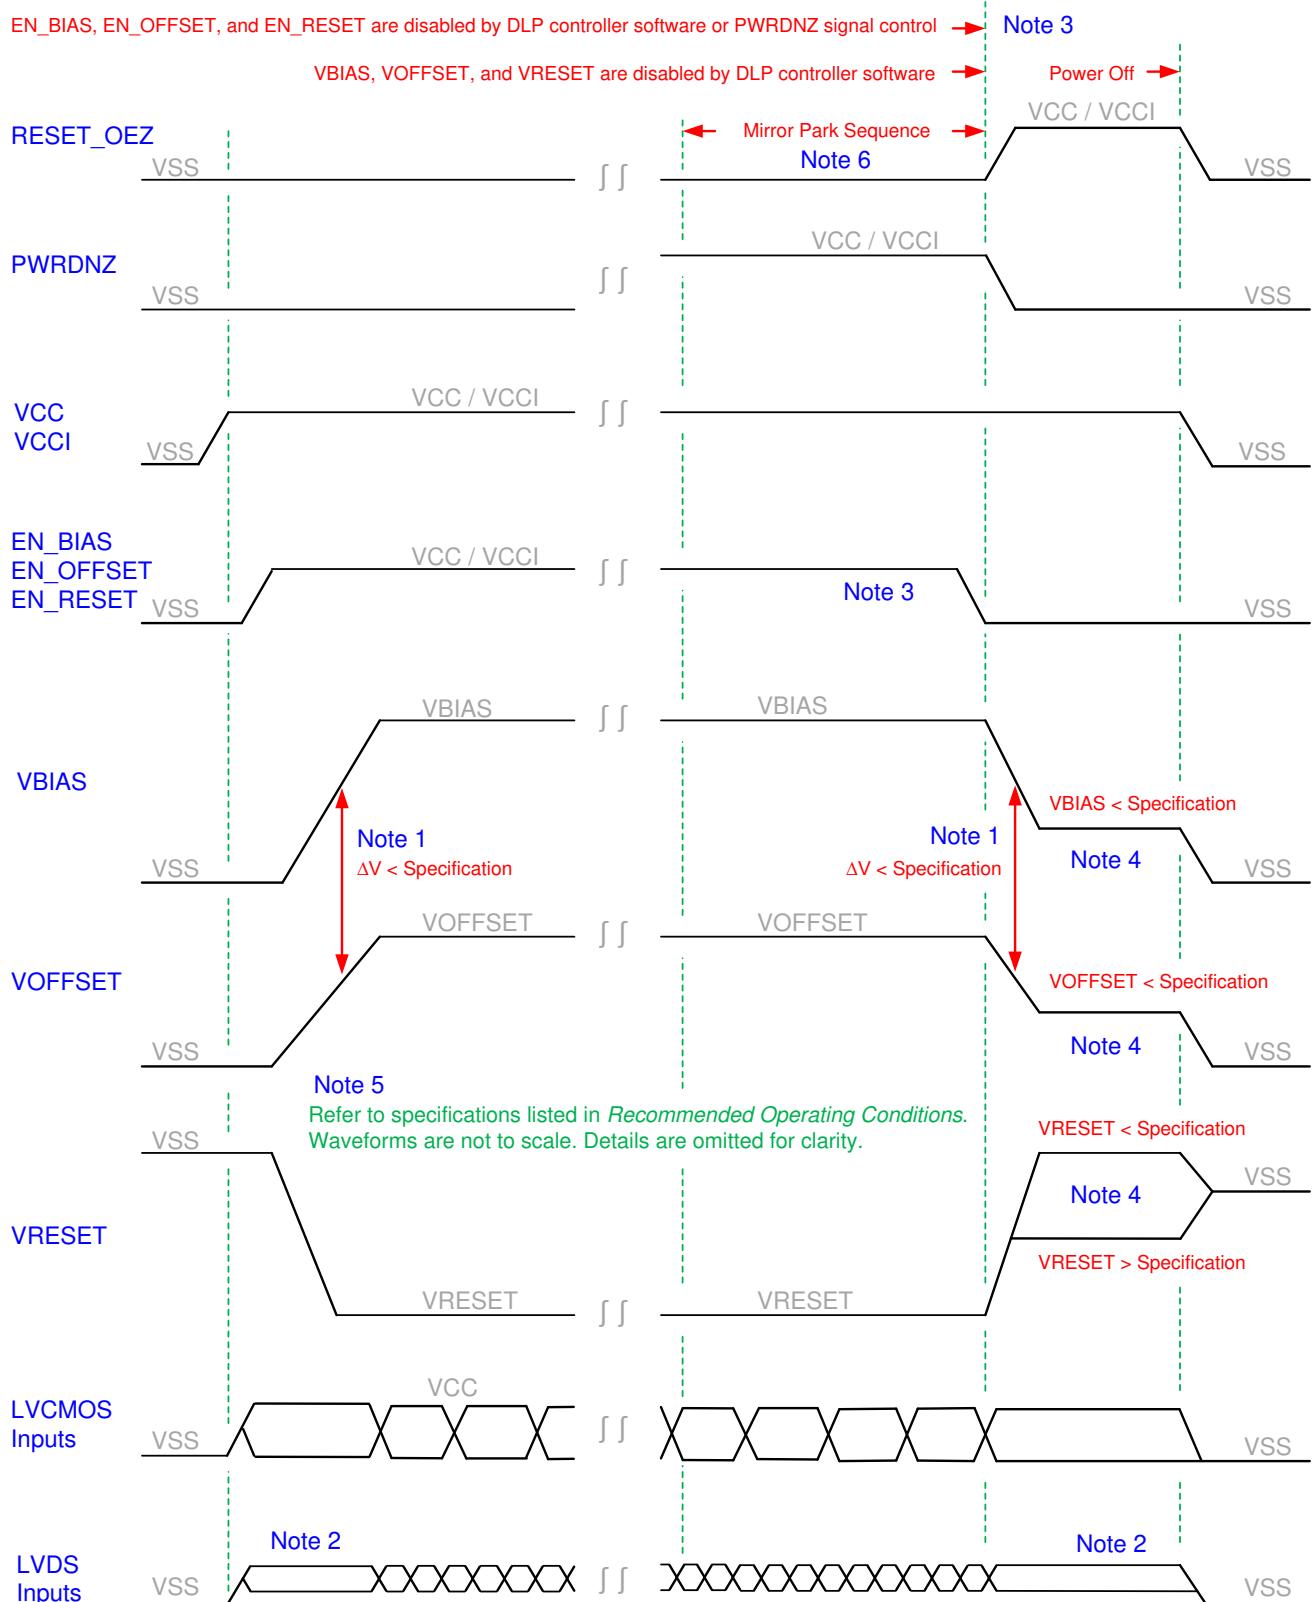

Figure 21. DMD Power Supply Sequencing Requirements
For reliable operation of the DMD, the following power supply sequencing requirements must be followed. Failure to adhere to the prescribed power-up and power-down procedures may affect device reliability. V_{CC} , V_{CCI} , V_{OFFSET} , V_{BIAS} , and V_{RESET} power supplies have to be coordinated during power-up and power-down operations. V_{SS} must also be connected. Failure to meet any of the below requirements will result in a significant reduction in the DMD's reliability and lifetime. Refer to Figure 21.
- Power supply slew rates requirements during power-up are flexible, provided that the transient voltage levels follow the requirements listed in Absolute Maximum Ratings, in Recommended Operating Conditions, and in Figure 21.
- Power supply slew rates during power-down are flexible, provided that the transient voltage levels follow the requirements listed in Absolute Maximum Ratings, in Recommended Operating Conditions, and in Figure 21.